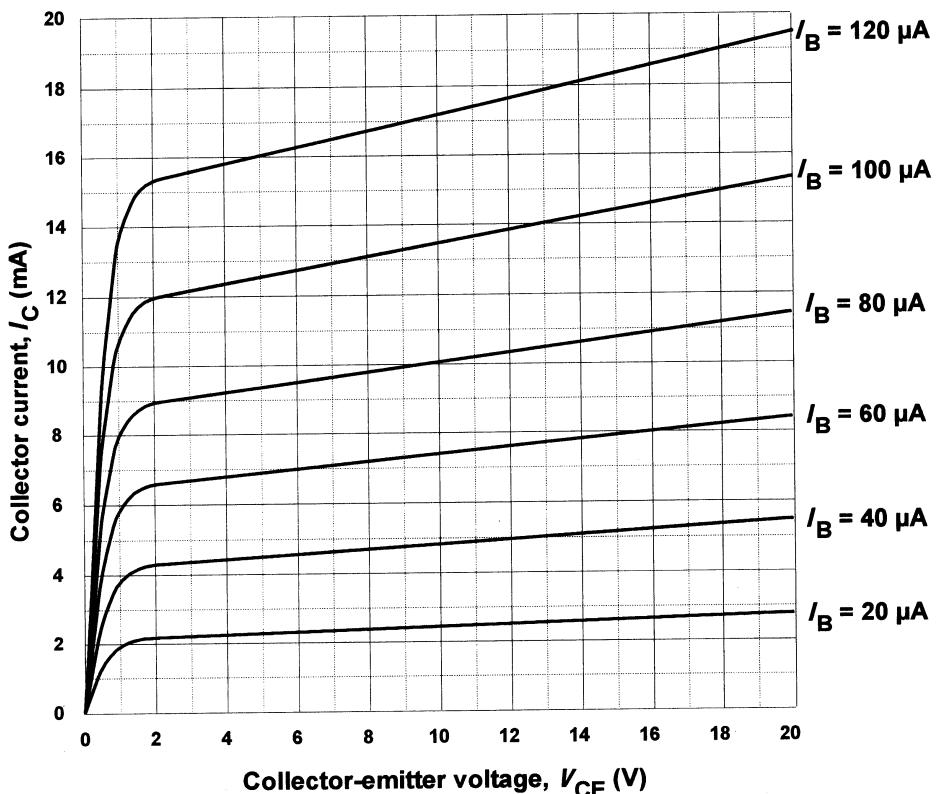

Figure 7.45
7.8 The output characteristics of a bipolar transistor are shown in Fig. 7.45. If this transistor is used in an amplifier circuit operating from a 12 V supply with a base bias current of $60 \mu\text{A}$ and a load resistor of $1 \text{ k}\Omega$, determine the quiescent values of collector-emitter voltage and collector current. Also determine the peak-peak output